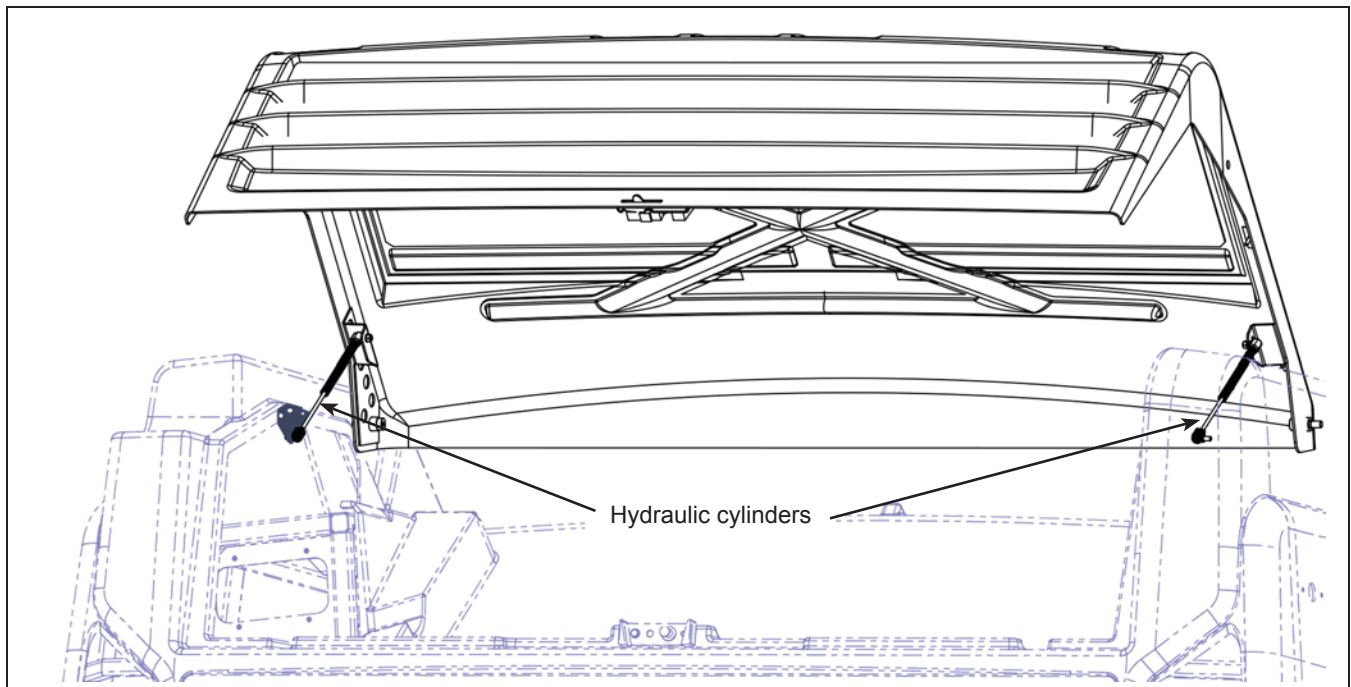

Figure 1 - Typical Anchorage for the Radiator Access Door
- 1.1. Remove the radiator access door. Retain the hardware. See Figure 1.
- 1.47. Install the radiator access door using the retained hardware. See Figure 1. ❖